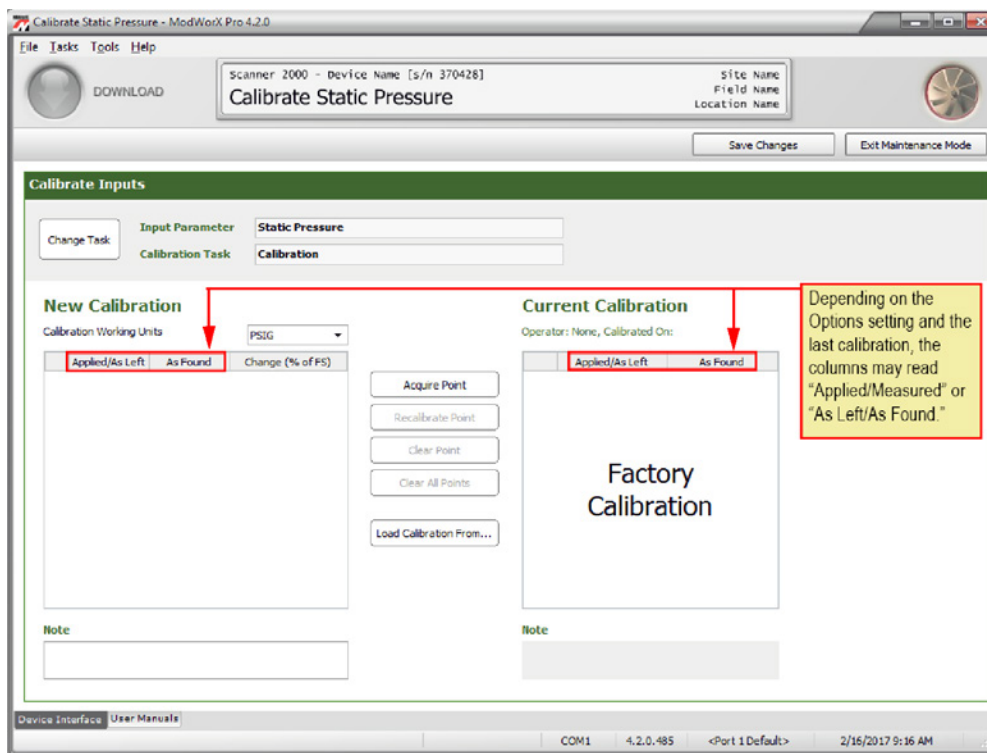

Figure 6.10
1. Observe the calibration settings at the bottom of the screen (Figure 6.10). To calibrate the sensor, click on the blue **Calibrate** hyperlink in the Sensor Calibration section and follow the screen prompts.
2. Observe the verification settings at the bottom of the screen (Figure 6.10). To verify the sensor’s calibration, click on the blue **Verify** hyperlink and follow the screen prompts.